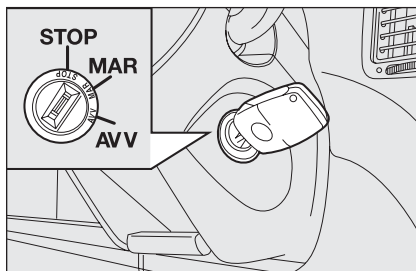

fig. 19
*Operation of the child lock A-fig. 19 is only guaranteed if the lock is turned and snaps into horizontal position 1.*